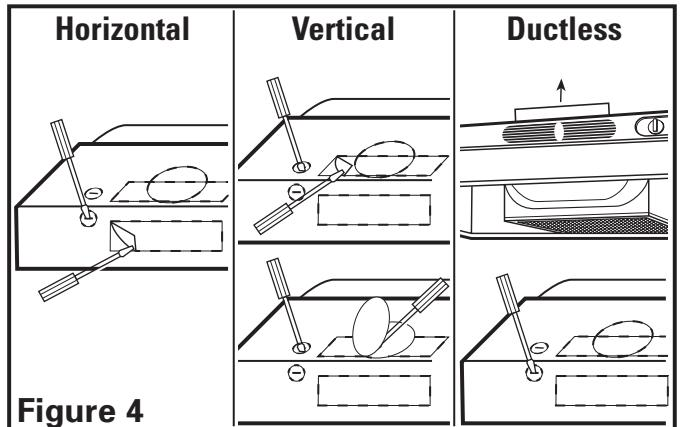

Figure 4
- 2a. **Horizontal or Vertical** - Remove the square knockout by inserting a screw driver under the edge and break the tabs holding it in place. Peel back with pliers (**Figure 4**).
- 2b. **Ductless** - Lift up and remove the hood's vent insert located behind the grill, exposing the front air slots. Do not use a screwdriver or any other object that could scratch the hood (**Figure 4**).
- 2c. **7" Round** - Remove the round knockout located on the top of the hood by inserting a screw driver under the edge and break the tabs holding it in place. Peel back with pliers (**Figure 4**).
3. Determine where the electrical service will enter the hood and remove the appropriate electrical knockout by inserting a screw driver into the slot and rocking back and forth until the knockout comes loose (**Figure 4**).